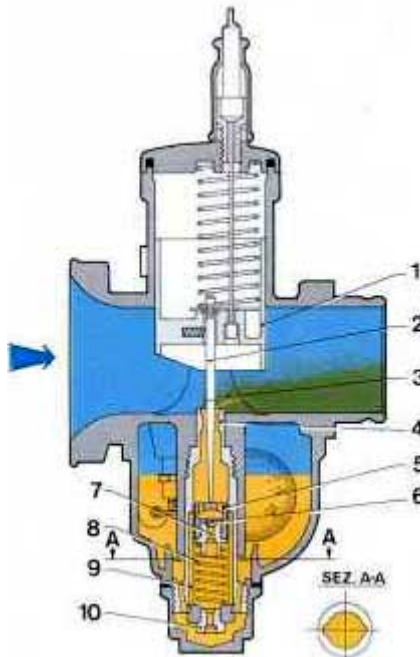

fig. 30
Figure 30 shows a simpler pump system than the one previously described, used on some other Carburetor models.
The pump action is also affected by the length of the grooves (9) machined in the internal walls of the cylindrical chamber, where the pump piston moves (see figure 30).